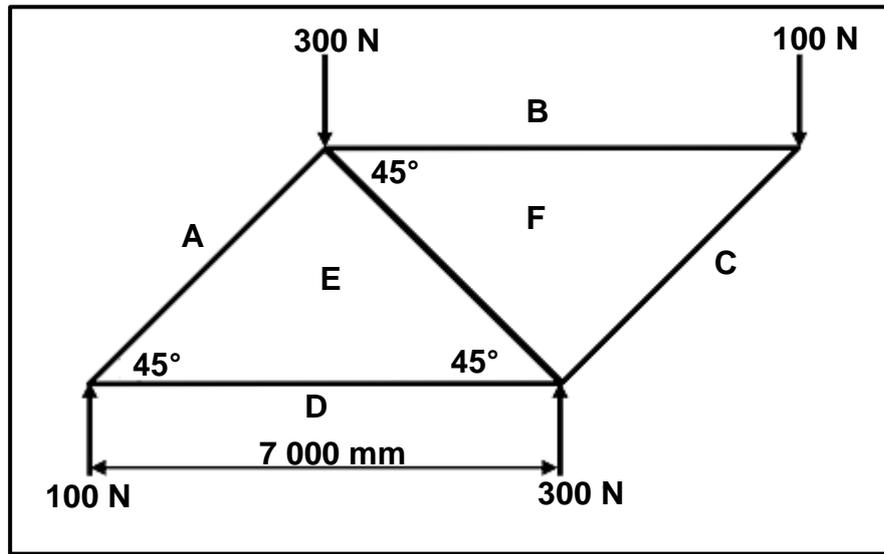

FIGURE 7.1
7.1 FIGURE 7.1 below shows a framework with members **AE**, **BF**, **CF**, **DE** and **EF**. Graphically determine the magnitude and type/nature of each member.